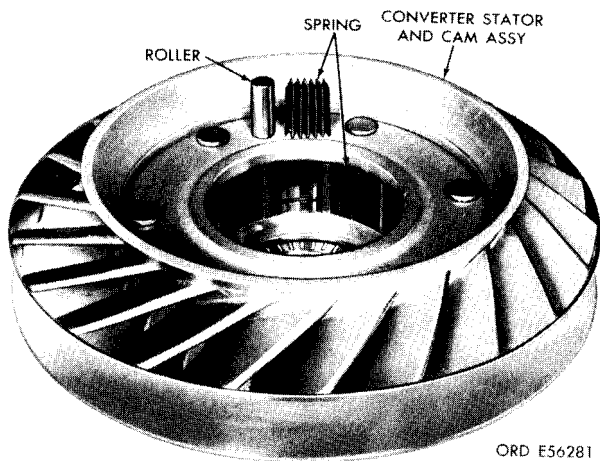

Figure 5-59. Converter stator and cam assembly, showing relation of components.
(1) Position converter stator and cam assembly (fig. 5-59) with largest inside diameter up. Install 10 springs in cam pockets. Ends of springs must be toward center of stator and cam assembly and in deep end of cam pockets. Relative position of spring and roller is shown.